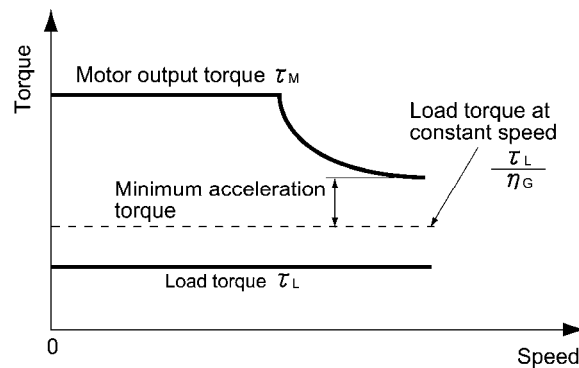

Figure 3.4 Example Study of Minimum Acceleration Torque
- 2) Calculate the minimum acceleration torque (See Figure 3.4)